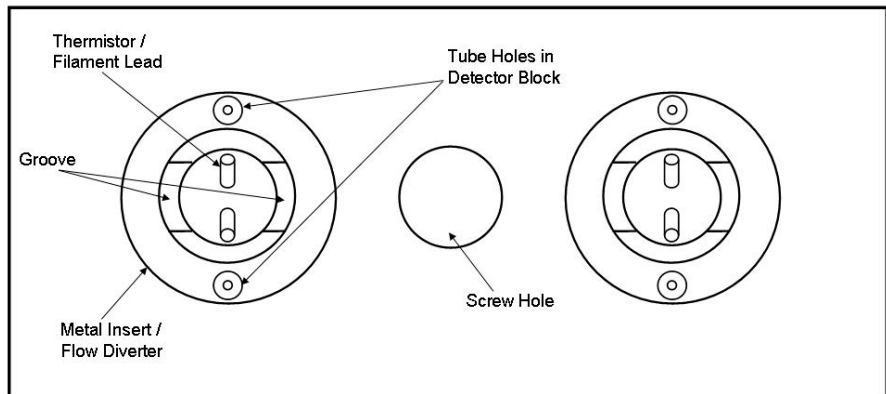

Figure 4-58: Proper Alignment of Metal Inserts
8.	Install the metal inserts (14) in the detector block (4). These inserts should be installed with the groove perpendicular to the tube holes in the block (so that air cannot flow in a straight path between the holes). Refer to Figure 4.58